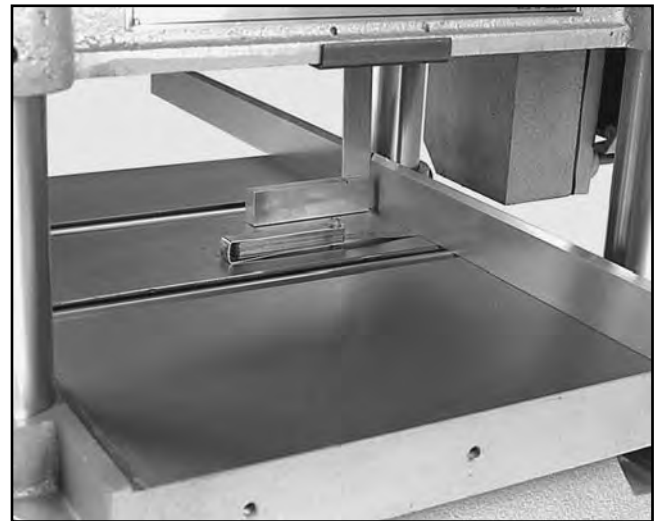

Figure 23. Inspecting bed roller height.
2. Use a feeler gauge to measure the clearance between the bottom of the straight edge and the table. Ideal clearance is between 0.002" and 0.005". Measure in several places. This measurement must be consistent across the entire table. See **Figure 23**.